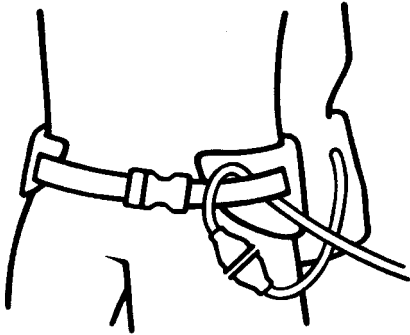

FIG. 6
8. Check the wear on the cord by the vacuum body and at the plug. Place the extension cord between the waist belt's strap and padded area to signal you if you have run out of cord while vacuuming (Figure 6).